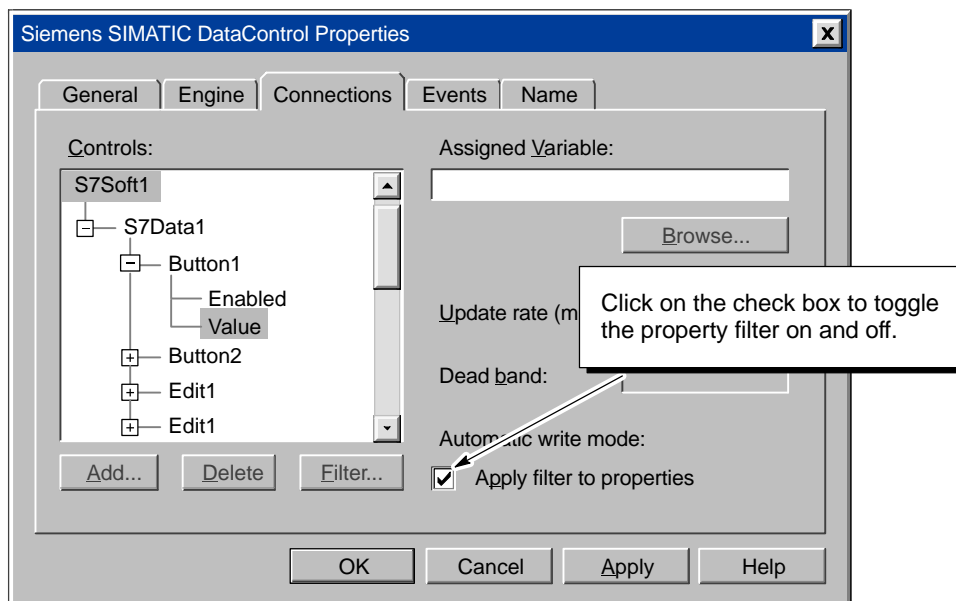

Figure 4-8 Toggling the Property Filter
4. As shown in Figure 4-8, select the “Apply filter to properties” check box to display only the properties listed in the filter.